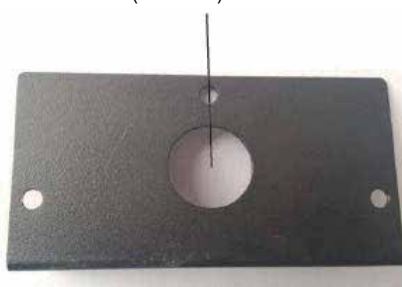

Fig. 3
7. Secure the appliance to the bottom brackets using 4 screws (supplied) **(Fig. 3)**.
- Punch out the 7/8" (22mm) hole in the new cover plate (supplied) (**Fig. 3**), and install a box connector through it into the junction box. Snap the box connector clamp onto the supply wires.